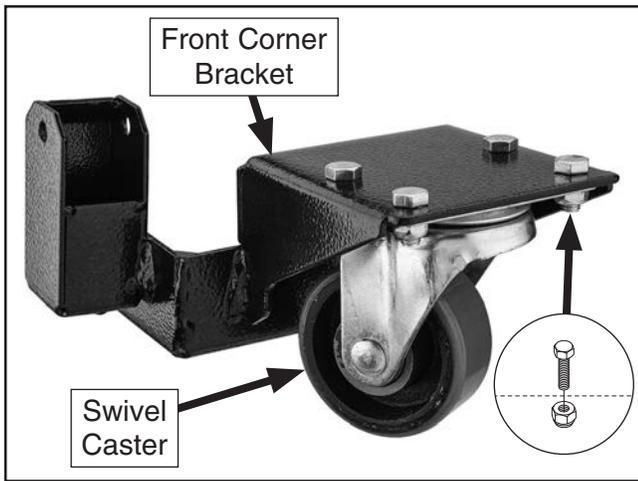

Figure 3. Swivel caster attached to front corner bracket.
1. Attach swivel caster to each front corner bracket with (4) M8-1.25 x 16 hex bolts and (4) M8-1.25 lock nuts (see **Figure 3**).